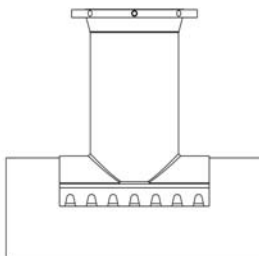

Figure 3
- 7) Using lift support, position the valve body onto the pipe in the position it is to be installed in so that adjusting of the valve's position is not necessary (see figure 3). A level should be used to check the orientation of the valve body flange during positioning. If repositioning is necessary lift the valve body off the pipe and retry. Do not rotate the valve body once it is on the pipe as this can cause damage to the gasket. **NOTE:** Placing two bolts into the valve body flange, 180° apart and placing a strap over each bolt and above the flange is the recommended method of lifting.